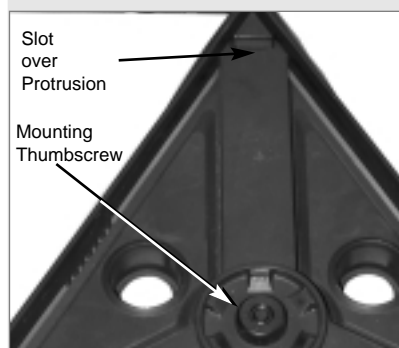

Fig. 4: Place slots in tray over protrusions on leg braces.
3. **Attach the accessory shelf to the tripod:** Remove the mounting knob from the center of the leg braces (**39, Fig. 1c**). Place the triangular accessory shelf on top of the leg braces so that each corner of the triangle lies over a leg brace. Notice that there is protrusion on each leg brace. There is a corresponding slot for each protrusion on the accessory tray. See **Fig. 4**. Line up the slots with the protrusions and slide the protrusions through the slots to hold the tray in place. Next, slide the mounting thumbscrew through the hole in the center of the brace and tighten to a firm feel.